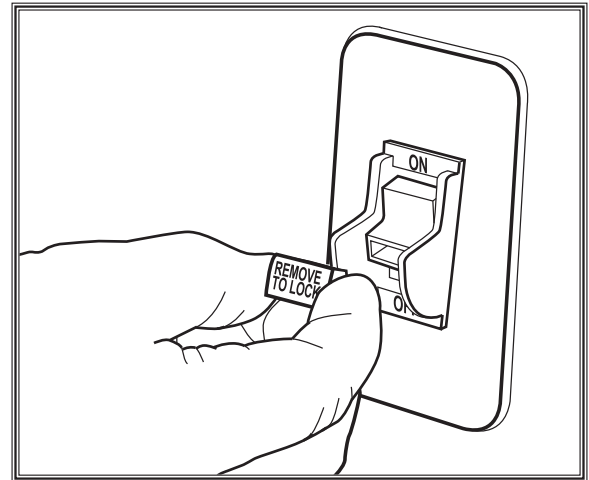

Figure 15. Removing the switch disabling key from the conveyor ON/OFF switch.
- Turn the conveyor **OFF**, then remove the switch disabling key, as shown in **Figure 15**.